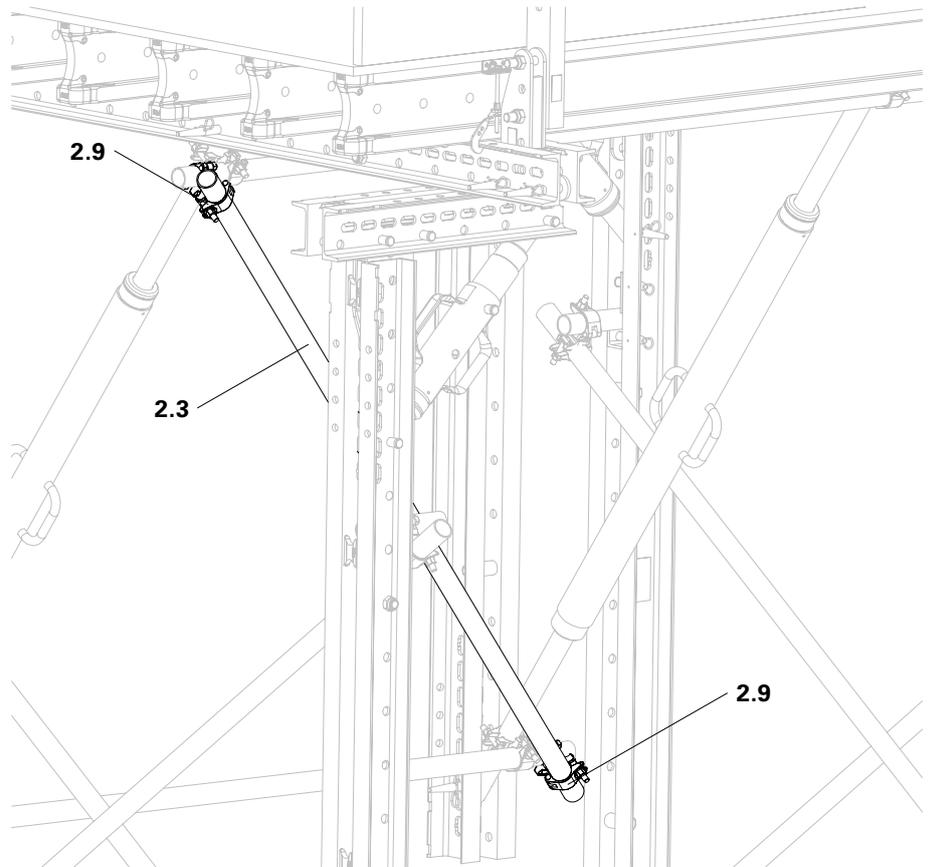

Fig. A6.06a
2. Diagonally attach Steel Scaffold Tube Ø 48.3 x 3.2 (2.3) to the Swivel Couplings DK 48/48 (2.9). (Fig. A6.06a)